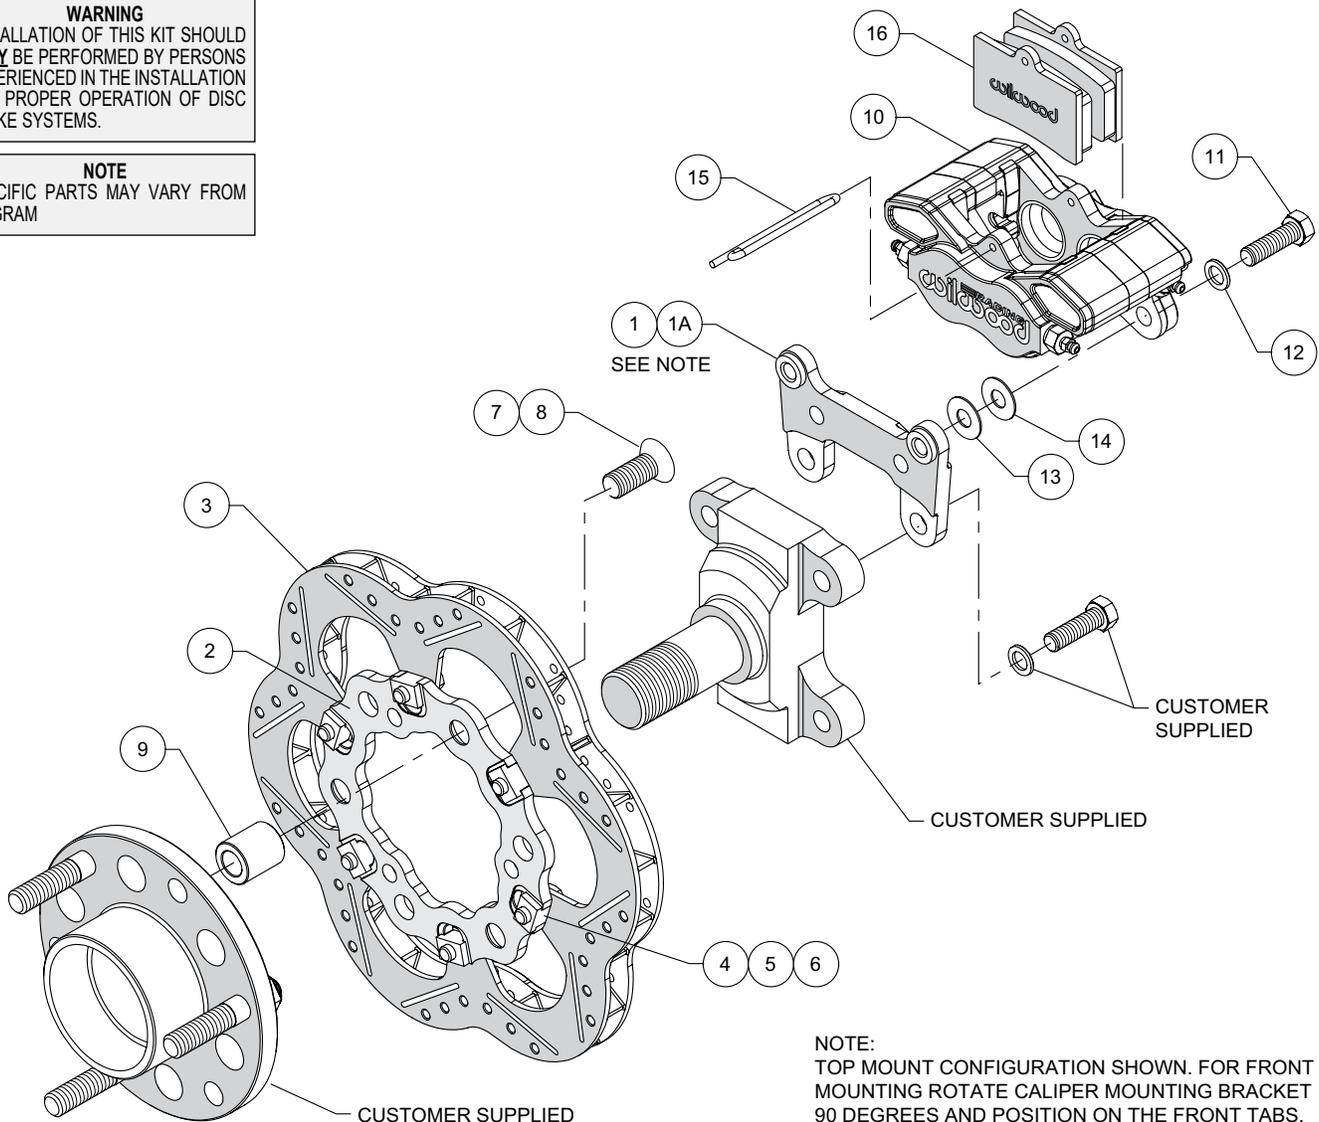

Figure 1. Typical Installation Configuration
NOTE: Numbers in parenthesis refer to the parts list and Figure 1 on the preceding pages.
- Install the caliper mounting bracket (1 for front mount) or (1a for top mount) onto the inboard side of the spindle mounting tabs using customer supplied bolts and washers by first coating bolt threads with red *Loctite*® 271 and sliding bolt through washer, then through caliper mounting bracket and thread into the tabs on spindle as shown in Figure 1. The bracket must tighten squarely against the inboard side of the spindle mounting tabs. Inspect for interference from casting irregularities, machining ridges, burrs, etc. Torque bolts to specification.
- With the T-notches of the rotor adapter (2) facing away from the rotor (3), attach adapter to rotor using bolts (4), washers (5), and t-nuts (6) as shown in Figure 1. Finger tighten. After all t-nuts have been installed, torque bolts in an alternating sequence to 220 ± 20 in-lbs (~19 ± 1 ft-lb). Please refer to Wilwood's data sheet DS-669 (available at www.wilwood.com/Pdf/DataSheets/ds669.pdf) for complete t-nut bolt kit installation instructions.